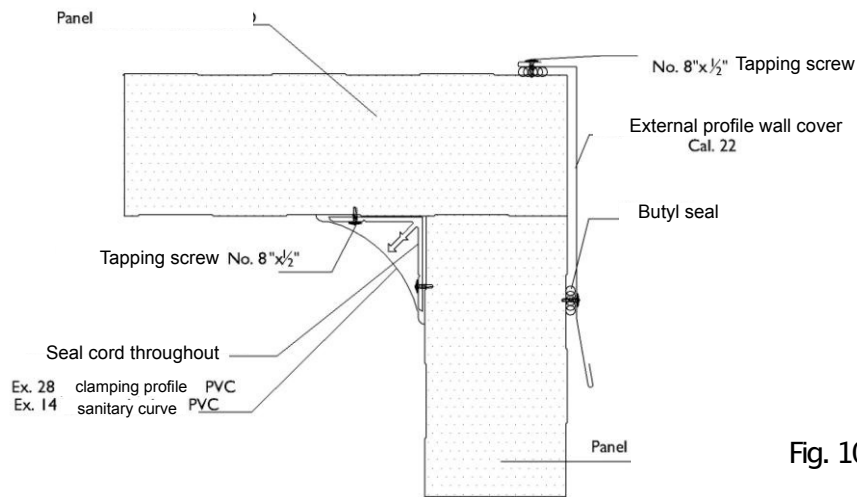

Fig. 10
4.3.13 The free spaces that may remain within the profiles must be filled with polyurethane foams or insulating wools applied on site. As well as the male joint female between panel and panel. Additionally inside corners can be finished between walls and ceilings with concave sanitary finishes in PVC. (Fig. 10)